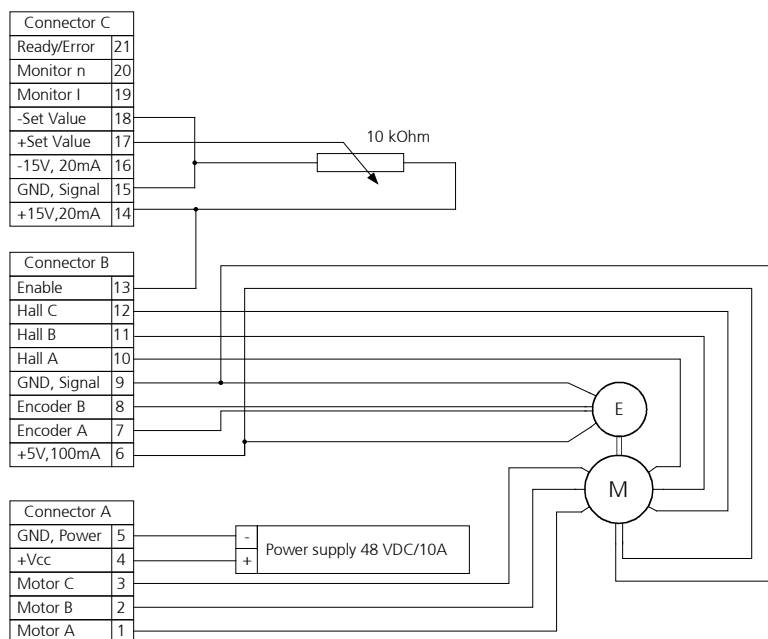

Figure 13
1. Connect the motor cables with an motor control unit (see Figure 13).